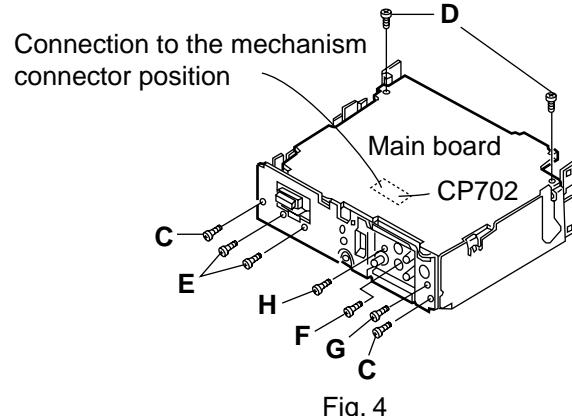

Fig. 4
■ Removing the main board (see Fig.4)
■ Removing the rear panel (see Fig.4)
■ Removing the sub chassis ass'y (see Fig.4)
■ Removing the play head (see Fig.4)